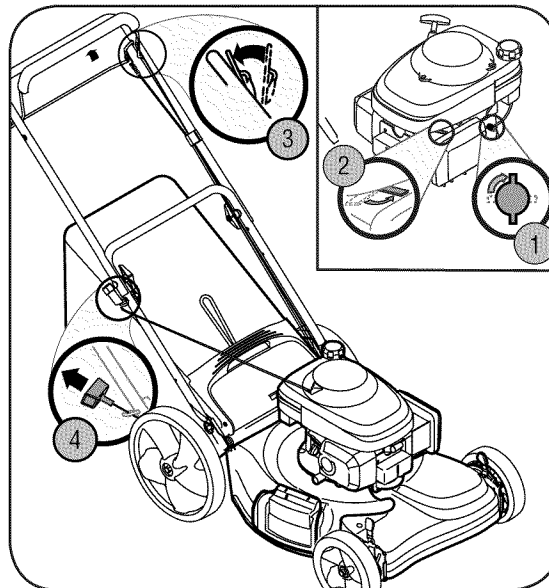

Figure 2
1. Place the fuel valve lever found on the left side of the engine into the ON position. See Figure 2 inset.
3. Standing behind the mower, squeeze the blade control against upper handle. See Figure 2.
4. Holding these two handles together firmly, grasp recoil starter handle and pull rope out with a rapid, continuous, full arm stroke. See Figure 2. Keeping a firm grip on the starter handle, let the rope rewind slowly. Repeat until engine cranks. Let the rope rewind each time slowly.